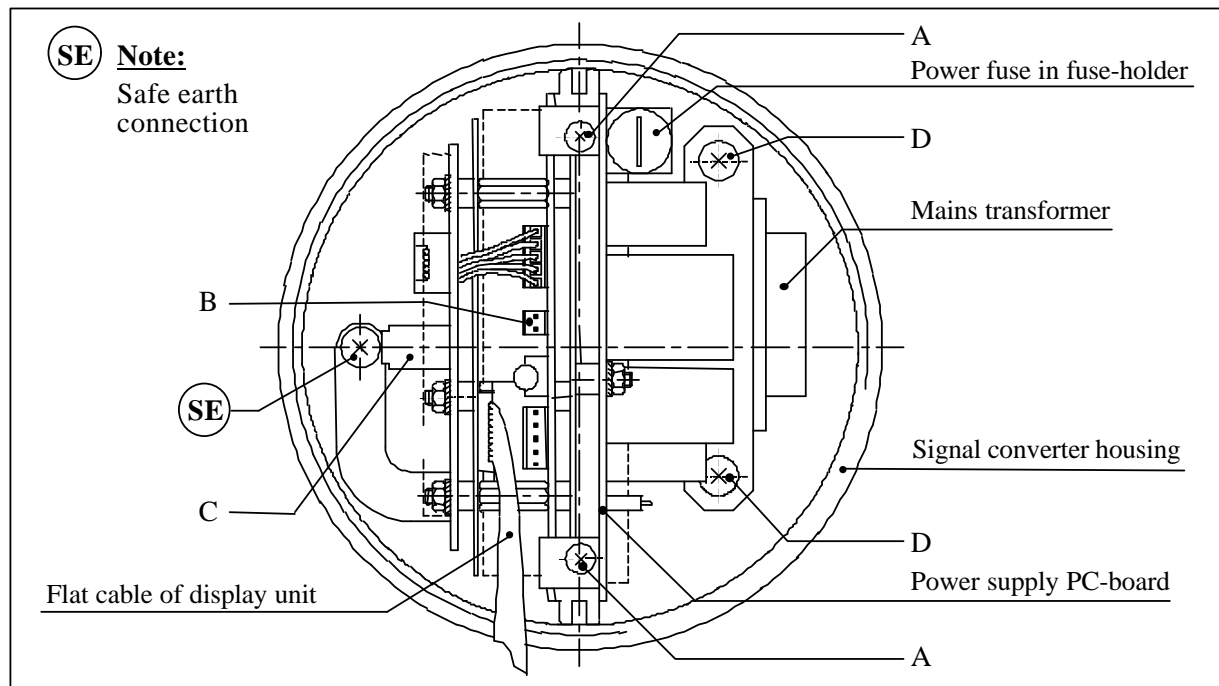
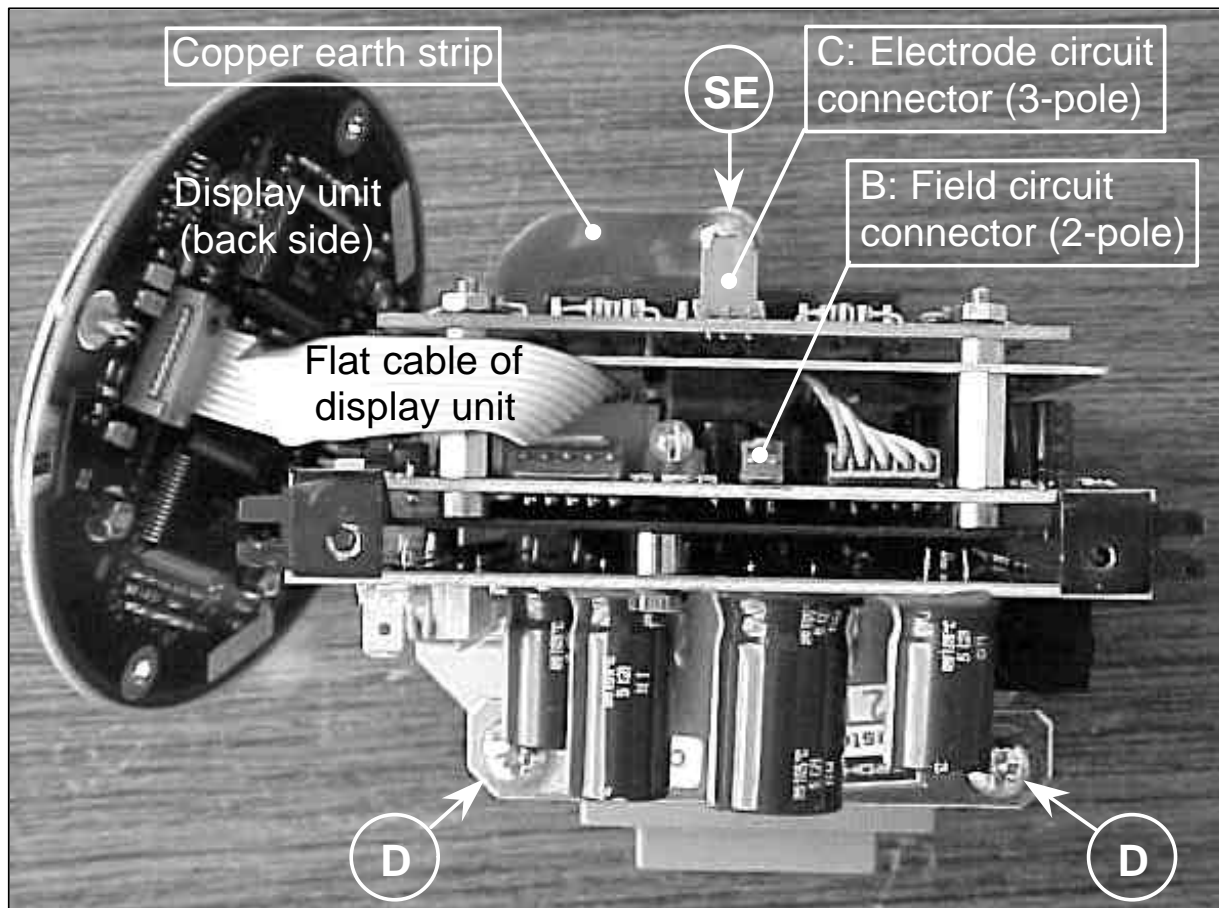

Figure 9: IFC 090-EEx electronics unit after removal of display unit.
Figure 11: IFC 090-EEx electronics unit (115/230 Vac version).
- ◆ The copper earth strip at the back of the electronics unit **must** be securely screwed to the housing (back-end of electronics compartment) by screw **SE** (see figure 9 below). The electronics unit is screwed into the electronics compartment by two screws **D**. Before screws **SE** and **D** can be accessed, the display unit must be removed via screws **A**.
3. Disconnect the 2-pole field circuit connector (item **B** in figure 9) and the 3-pole electrode circuit connector (item **C**). Also see figure 11 on the next page.
7. Carefully insert the electronics unit (keep cables aside, see **remark** below). Then mount the unit completely into the housing and fix the screws. First the two screws **D**, then screw **SE** and reconnect the 2-pole field circuit connector **B** and the 3-pole electrode circuit connector **C** to the right counter-plugs on the electronics unit (see also figure 9).
3. Disconnect the 2-pole field circuit connector (item **B**) as well as the 3-pole electrode circuit connector (item **C**). See figure 11 above.
3. Disconnect the 2-pole field circuit connector (item **B**) and the 3-pole electrode circuit connector (item **C**). See figure 11 on page 15 for details.